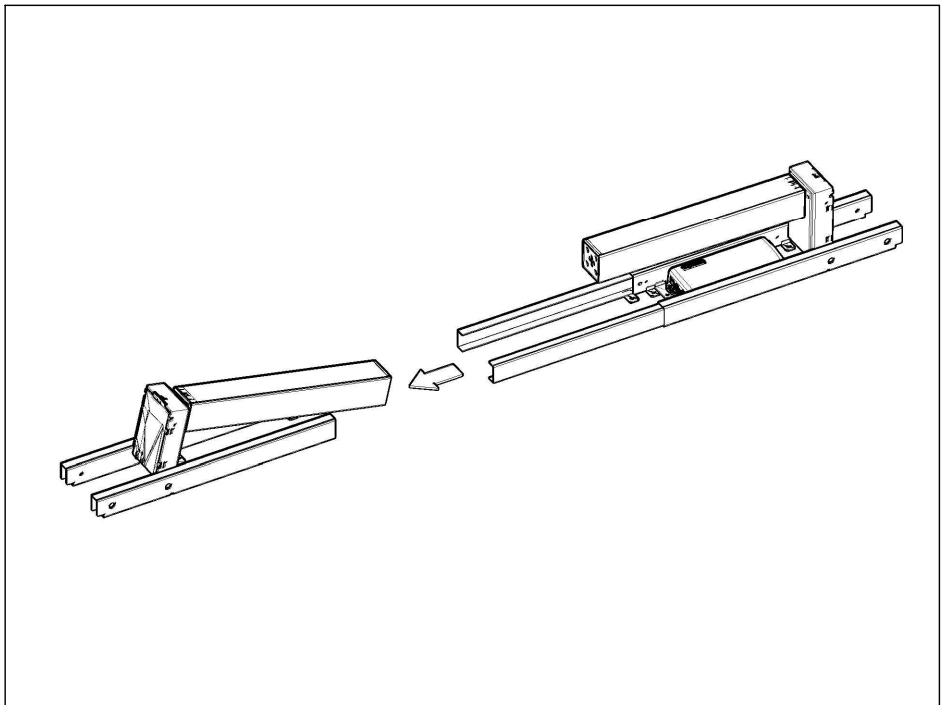

FIGURE 2
2. Remove half of the main frame by sliding it out. Set it aside (Figure 2).